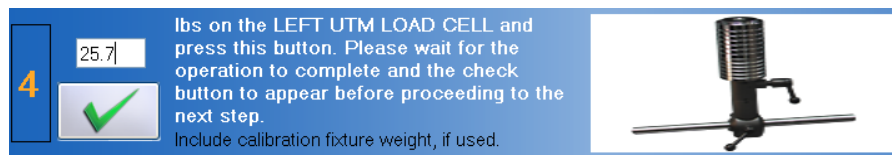

Figure 10-23. UTM - Set the Weight
Step 4. Place both calibration weights on the calibration fixture and type **25.7** (calibration fixture plus calibration weight) in the text field (Figure 10-23).
Step 5. Click on  to set the weight (Figure 10-23).